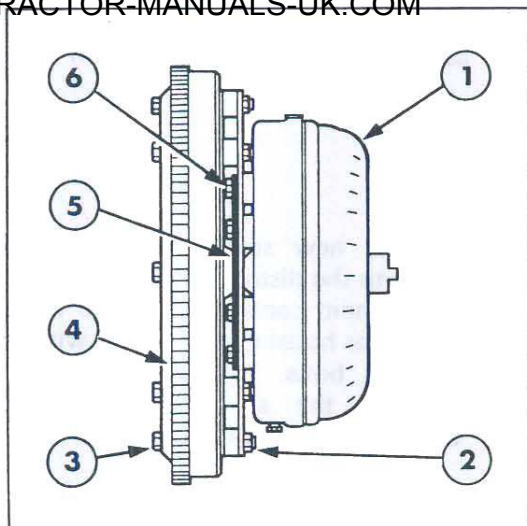

Figure 42
1. Secure the drive plate to the torque converter, Figure 42, with the six attaching bolts and flat washers. Tighten the bolts to the specified torque, see "Specifications" – Chapter 3.